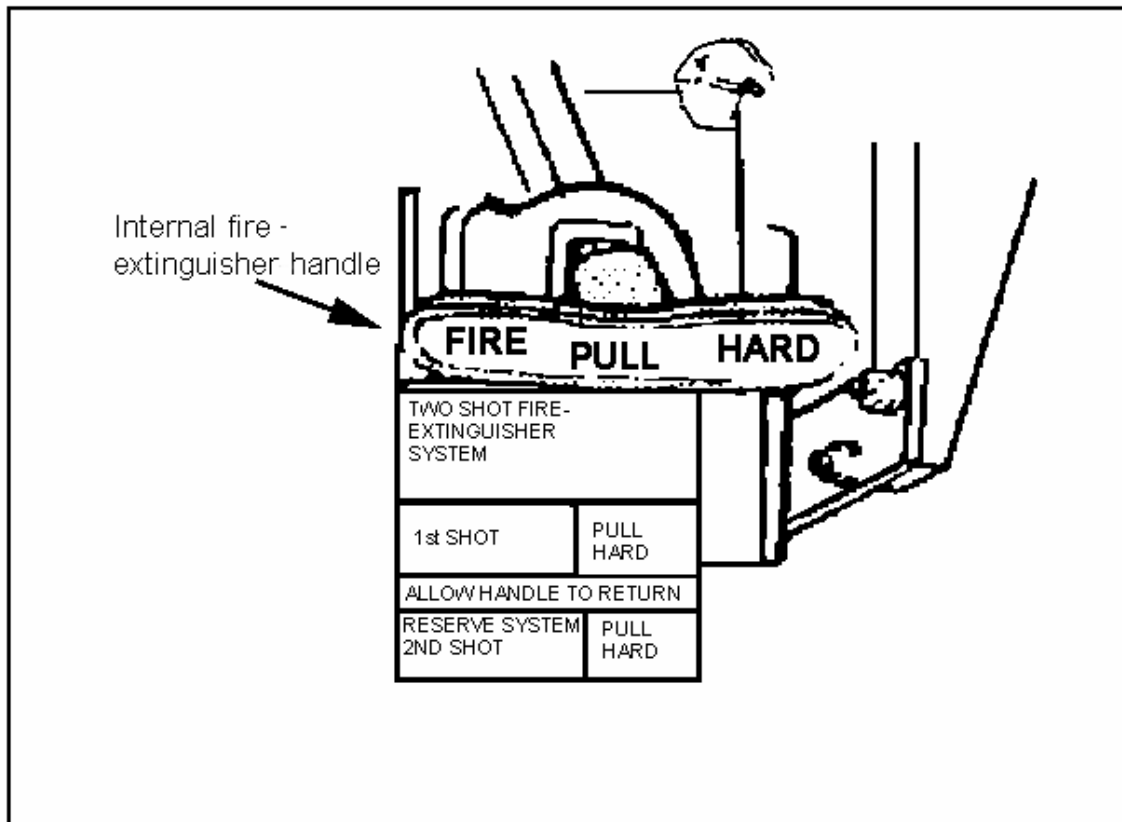

Figure 052-225-1216-2
- a. Push the internal fire-extinguisher handle back in (Figure 052-225-1216-2).